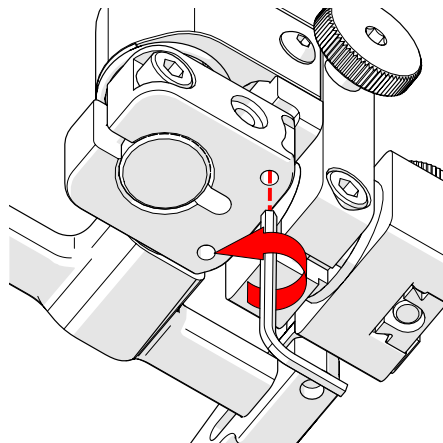

Fig. 147 - Lower 90° stop post
7. Locate the recessed M3 screw on the bottom of the probe holder. Unscrew the stop post using a 1.5 mm hex wrench (Fig. 47) until it has cleared all obstructions. Do not remove the stop post (Fig. 147).